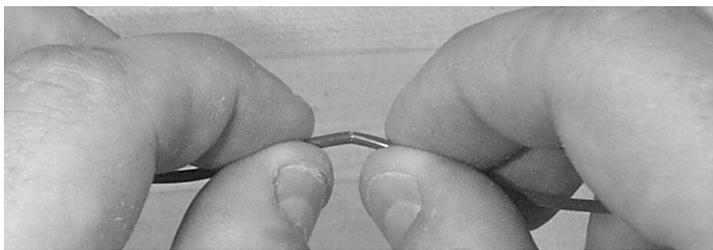

Figure 32 – Separate the buffer tube.
5.21 Grasp the tube on both sides of the score mark and gently flex the tube to separate it (Figure 32). Remove the buffer tube to expose the fibers. If a long section of buffer tube must be removed, it is recommended that the tube be removed in several short pieces about 14 to 18 inches in length.